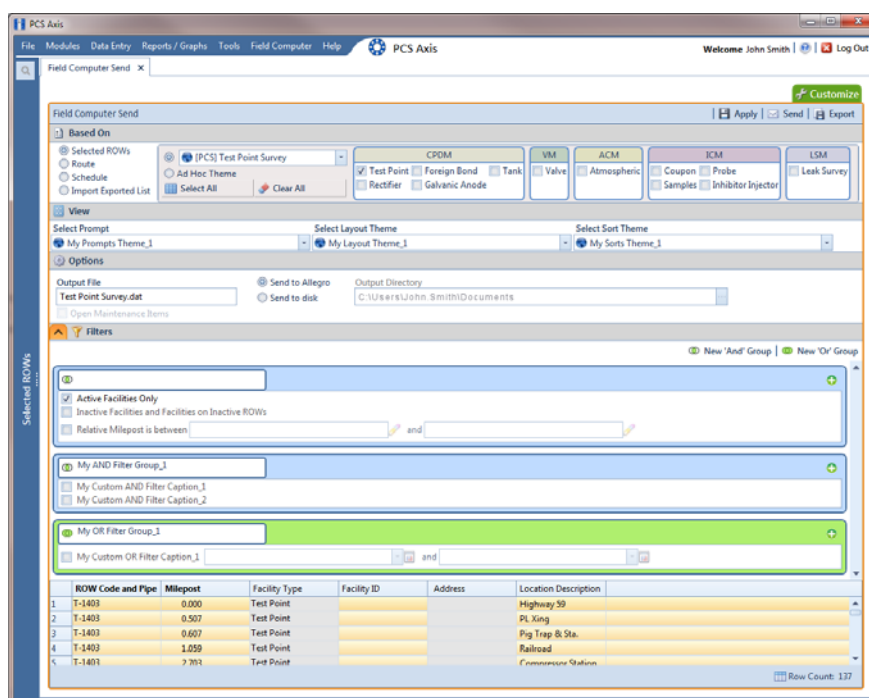

Figure 13-38. Filters
- a Click the  **Filters** tab to open the *Filters* panel (Figure 13-38, page 560).